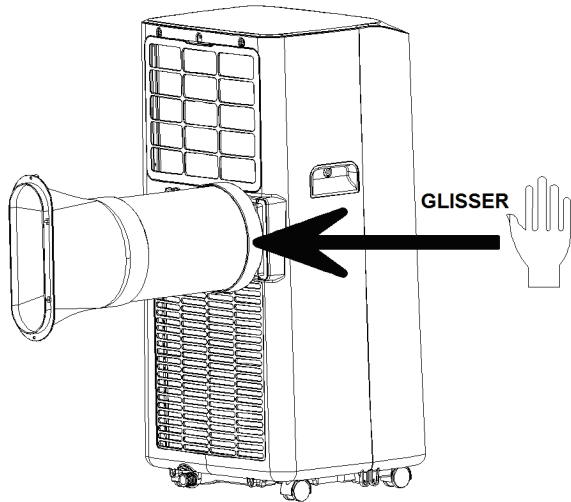

Figure 2
3. Connect the connector to the unit by sliding it into the slot on the back of the unit. **(Figure 2)**